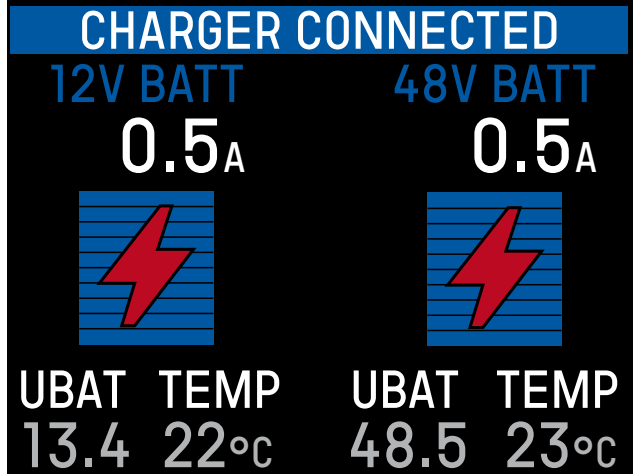

FIG.104 CHARGING DISPLAY OVERLAY PAGE
- ▶ Switch the Ignition and the Master Switch off, charging display can appear (» Fig.104).
- ▶ Switch the Ignition and the Master Switch off (» page 150). Charging display can appear if the 48 V battery needs to be charged (» Fig.104).